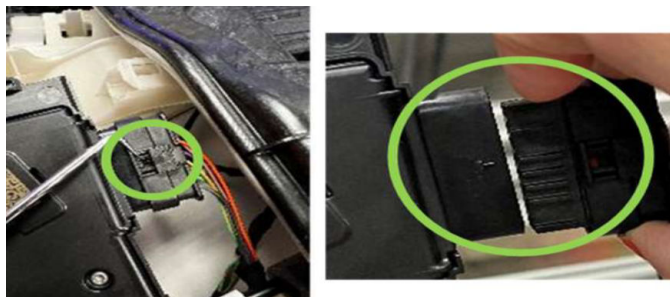

Fig. 12
14. Disconnect the latch from the wire harness connector by pulling up on the tab Fig. 12.